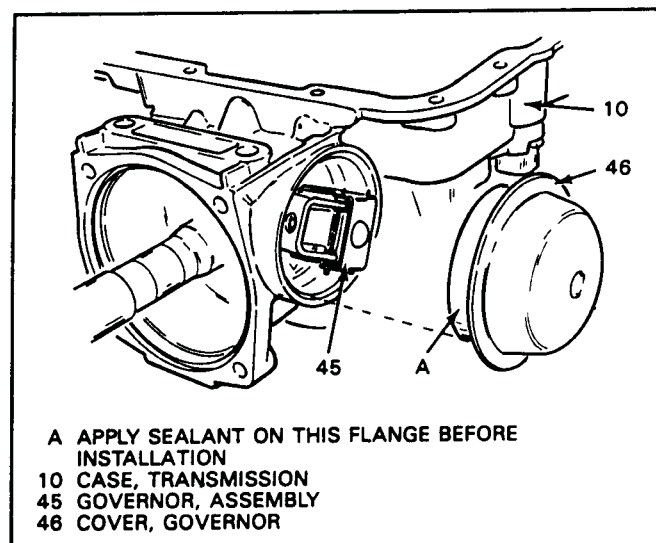

Figure 207
4. Install the governor assembly into the case bore (See Figure 207).
5. Apply sealant to governor cover flange before installation (See Figure 207).